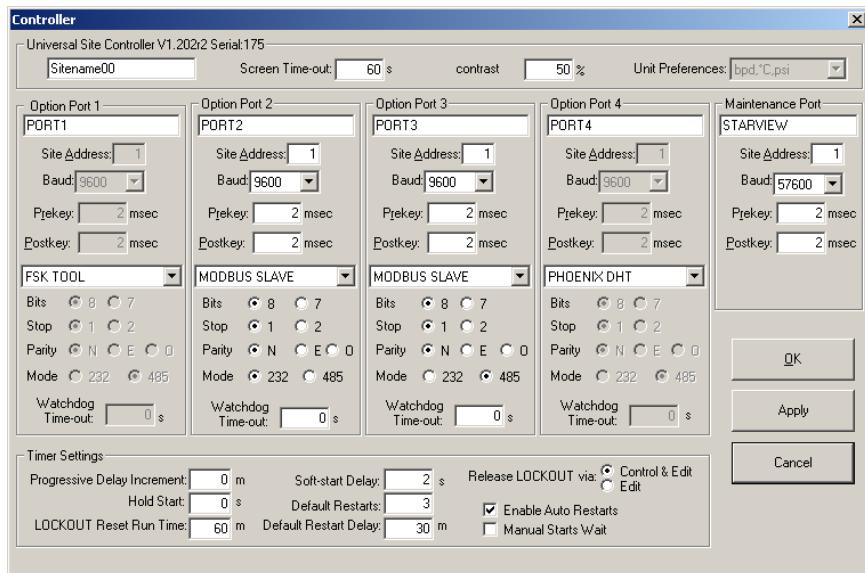

Figure D-2: Controller Dialog Firmware Version
- Wait few seconds for database to upload from UniConn and then on the **Database** menu, select **Controller** command to display controller dialog (see Figure D-2).